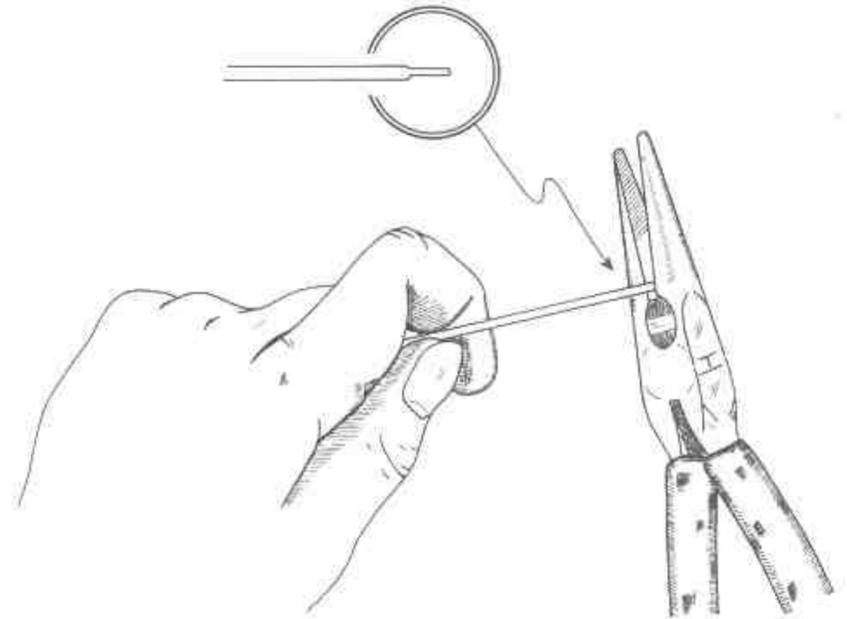

Figure 14
- (✓) Form another bend 1/2" in from the end, back towards itself in a half circle. Flatten the end slightly so it will go through the switch terminal. See Figure 14.
- (✓) Push the long hooked end of the #14 wire under the bandswitch center shaft and insert 1/8" of the flattened end into bandswitch terminal #1 (S). See Pictorial 3.
- () Insert the bare lead down through the inside hole on the solder lug on IN-2 and out towards the rear of the chassis until the 1/8" bent end comes even with the remaining end solder terminal on the 3-gang capacitor. Push the end down in the terminal hole (S). See Pictorial 3.
- (✓) Flatten the end 1/4" by squeezing with pliers (see Figure 14). Align flat to pass through the #2 terminal on the bandswitch (S).
- (✓) Maintain the capacitor tight against the chassis with one end even with the vent slot. Form one end to fit up into bandswitch terminal #3 (NS). See Pictorial 3.
- (✓) Cut a piece of #14 tinned wire 2 7/8" long. Flatten 1/4" of one end slightly. See Figure 14.
- (✓) Insert the unflattened end through the inside hole on the solder lug on the feed-through insulator IN-1 below the 6DQ6A socket (NS).
- (✓) Form the flattened end over and connect it to the #8 terminal on the bandswitch (S). Avoid shorting to the nut on the bandswitch.